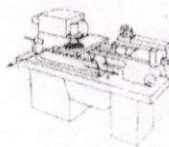

Figure 10.2 A coordinate system for a lathe (Y. Koren, Computer Control of Manufacturing Systems, McGraw-Hill, 1981.)
1. On a workpiece -rotating machine, such as a lathe, the Z axis is parallel In the spindle, and the positive Motion moves the tool away from the workpiece (figure 10.2).